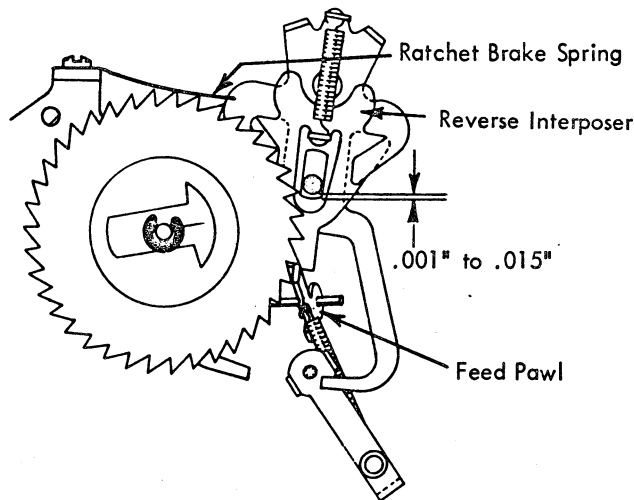

FIGURE 266. Ribbon Feed Plate Adjustment
2. **Ratchet Brake Spring** - Form the left and right ratchet brake springs so that each will hold its ratchet in position after the ratchet has been manually rotated far enough to fully actuate the reverse mechanism (Fig. 266).
3. **Ribbon Feed Plate** - With the ribbon mechanism set for a reversing operation and the ribbon cam at its high point, adjust the ribbon feed plate forward or back so that the ribbon feed pawl holds the reverse interposer within .001" to .015" of its total travel (Fig. 266).